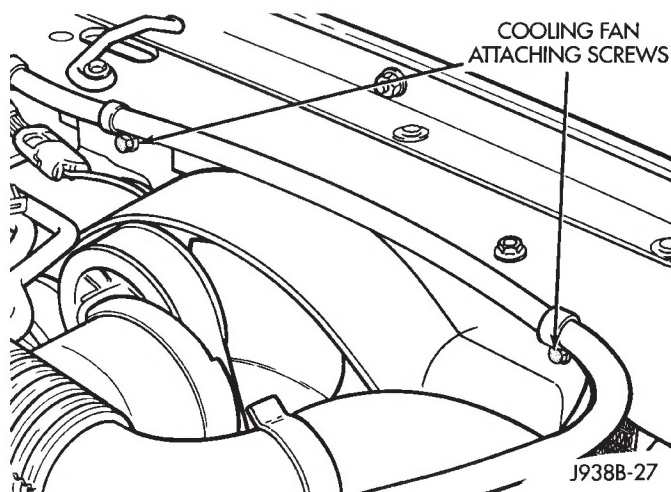

Fig. 18 Electric Cooling Fan Remove/Install
- (1) Disconnect battery negative cable.
- (2) Remove 2 screws holding electric cooling fan (Fig. 18).